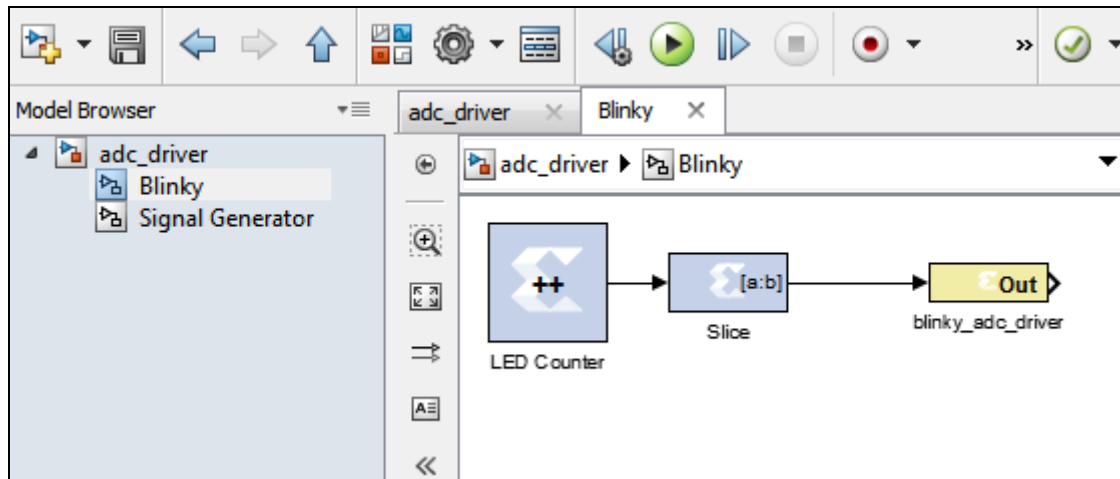

Figure 2-3: Blinky Subsystem
2. The white box labeled “Blinky” is simply a subsystem of the **Counter Slice** and LED **Gateway Out** blocks. The Blocks used for this subsystem are shown in Figure 2-3. Configure the Blinky subsystem identically to the other LED out systems in the previous labs.